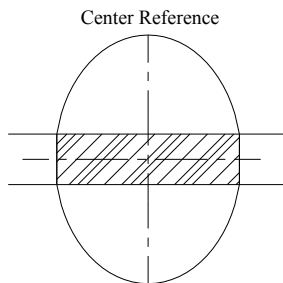

Fig.1
2. Center the scale wing root rib thickness on this center datum line. The top and bottom of the root rib in this position establishes the upper and lower vertical limits of the mid-wing "range" (Fig. 1).